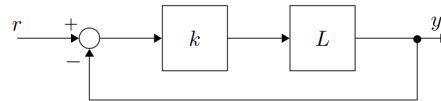
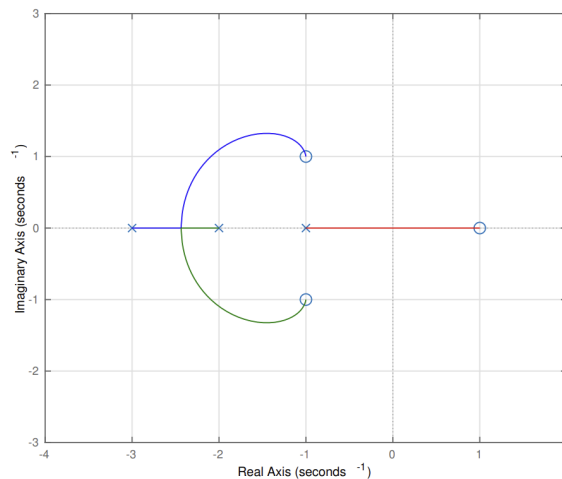

Figure 6: Closed-loop system  $T$ , open-loop system  $L$  and proportional gain  $k$ .
Figure 7: Root Locus of  $L$ . Poles are represented by  $\times$  symbols, zeros by  $o$  symbols.
**Problem:** Consider the closed-loop system  $T$  shown in Figure 6, where  $L$  represents a linear time-invariant system and  $k \in \mathbb{R}$ . The root locus of  $L$  for  $k > 0$  is shown in Figure 7.